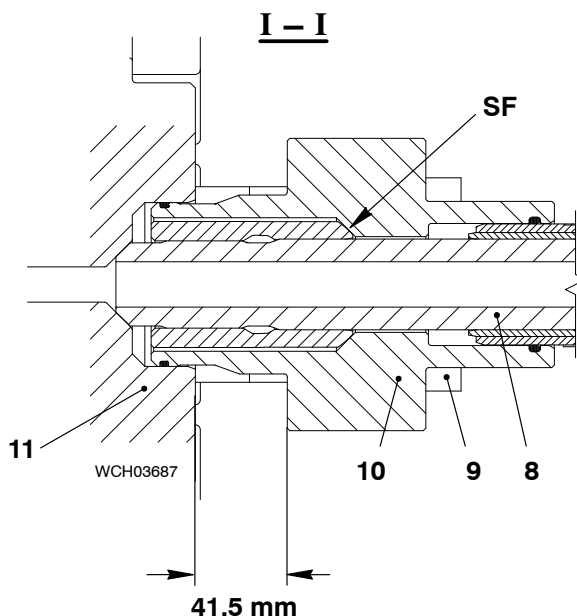

Fig. 15
- 19) Carefully put the HP fuel pipe (1, Fig. 15) in position in the intermediate piece (5) and the valve housing (4).
- 20) Make sure that the HP fuel pipe (1) is in the correct position.
- 22) Make sure that there is a distance of 39.5 mm between the flange (6) and the intermediate piece (1).
- 23) Make sure that there is a distance of 41.5 mm between the flange (10) and the valve housing (11).
- 24) Tighten the screws (2) on the support (3).
- 25) Make sure that there is a distance of 54.0 mm between the steel ring (4) and the slide ring (5).